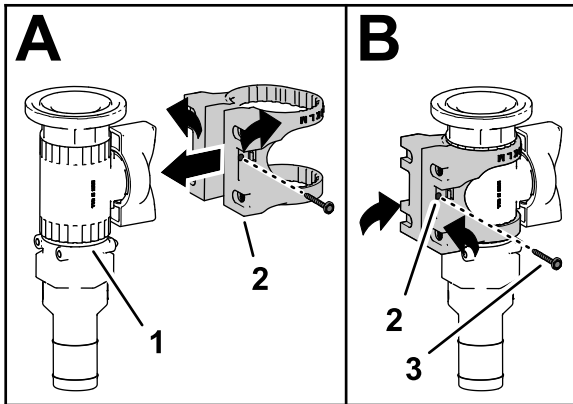

Figure 40
3. Assemble the valve mount onto the flanged control valve as shown in A of Figure 40.
4. Secure the valve mount to the control valve with the flange-head screw (#6), and tighten the screw by hand (B of Figure 40).